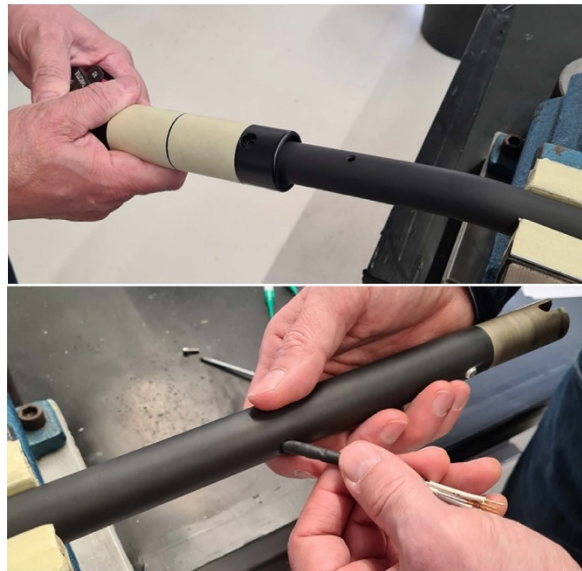

Figure 14 – Removal of the grip
13. Refer to Figure 14. Remove the collective grip (10) from stick tube (6). To do so, gently pull the grip while you guide the wiring inside the hole for grip cables.